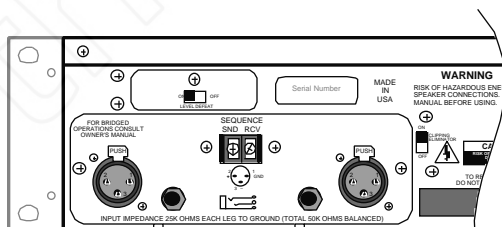

Figure 4A
**1/4-inch phone plug:** Use a 2-conductor (Tip-Sleeve) 1/4" phone plug. The tip of the plug carries the signal and the sleeve is ground. The ring connection in the jack is automatically grounded by the sleeve (see Figure 4A). **XLR:** Pin 2 carries the (+, hot, non-inverting) side of the signal, and Pin 1 is ground. Short Pin 3 to Pin 1 in order to reference the input differential amplifier for the correct gain (see Figure 4B). **Note:** The gain remains the same regardless of whether the input is balanced or unbalanced. Note: The polarity of the balanced inputs can be reversed by changing four jumpers located on the Input Board. See page 13 for more information.